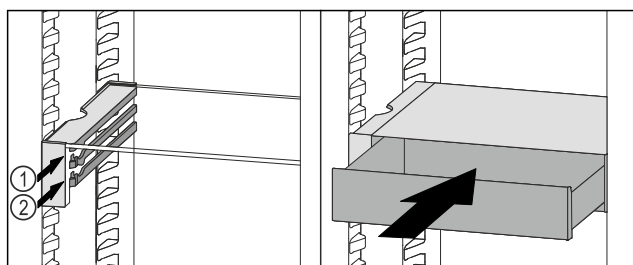

Fig. 144
- Place the VarioSafe drawer behind the stoppers on desired rib Fig. 144 (1) or Fig. 144 (2).